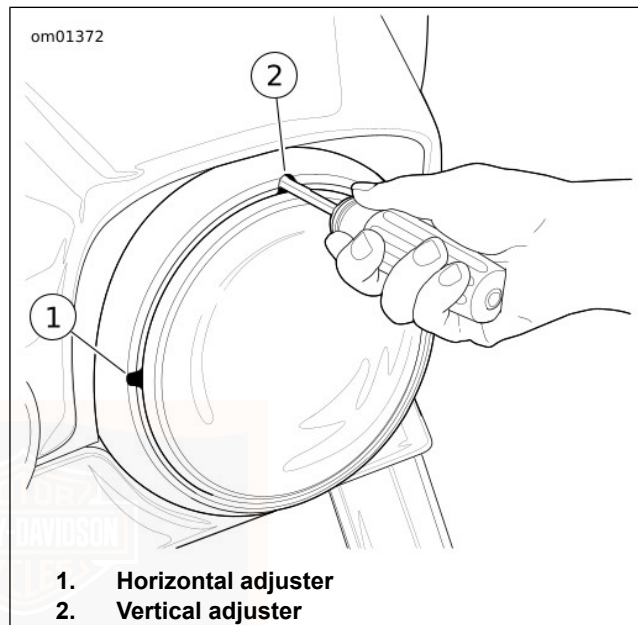

Figure 63. Headlamp Adjusters (typical)
1. See Figure 63. Using adjuster slots in trim ring, insert Phillips screwdriver between headlamp trim ring and rubber gasket.